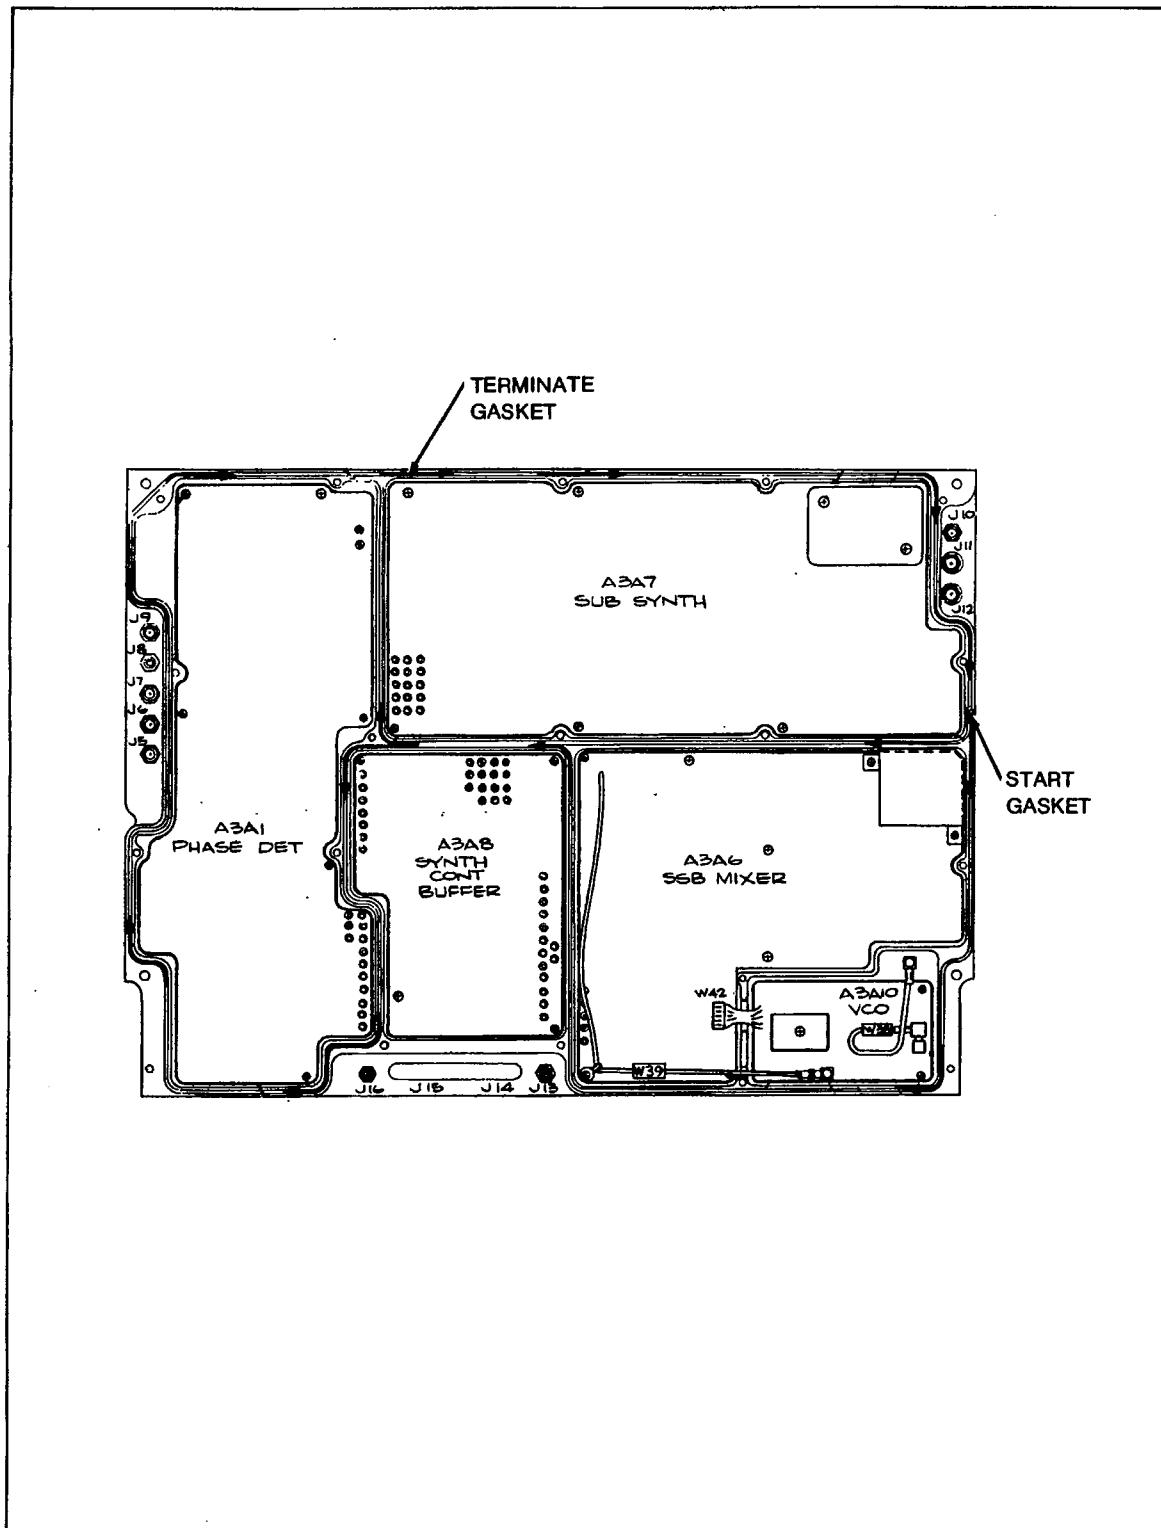

Figure 3-3. Bottom of Synthesizer Module
3-28. The A3A1 Phase Detector PCB, A3A6 SSB Mixer PCB, A3A7 Sub-Synthesizer PCB, A3A8 Synthesizer Control Buffer PCB, and the A3A10 VCO PCB are located in the bottom of the Synthesizer Module (Figures 3-1 and 3-3). The access procedure allows access to the printed circuit boards for troubleshooting procedures. After the cover has been removed, the cover screws must be torqued back in place to insure specific RF integrity. Figures 3-3, 3-8, 3-9, and 3-10 illustrate the disassembly and assembly procedures.
1. Make sure that the RF gaskets are in place (Figure 3-3) and inspect the RF gaskets for damage (areas that are folded over, worn, or pinched).
- a. Start the RF gasket at the appropriate START GASKET point shown in Figure 3-3.
- b. Traveling in the direction indicated in Figure 3-3, press the gasket into the groove.
- c. The end of the gasket should be at the TERMINATE GASKET point shown in Figure 3-3.